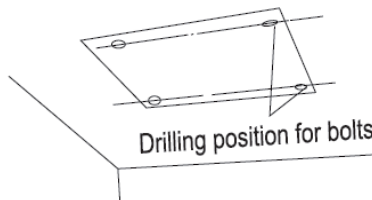

Figure 3-1-40
(1). Using the installation template, drill holes for bolts (four holes). (Figure 3-1-40)